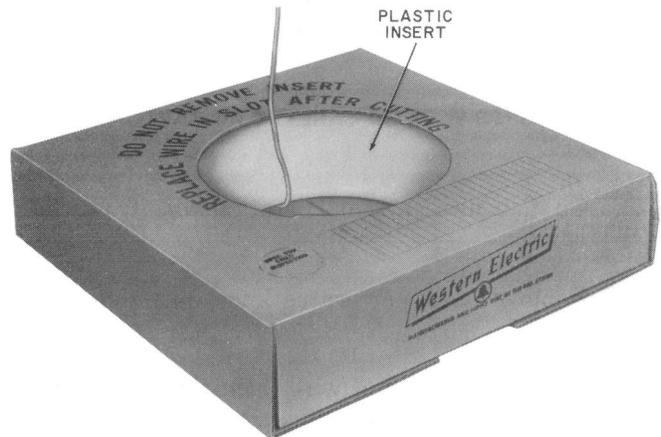

Fig. 1—Dispensing D, G, or H Station Wire
- (1) Remove large perforated knockout from carton.
- (2) Remove free end of wire from slot in bottom. Do not remove plastic insert.
- (3) Place carton on floor and feed wire from carton (Fig. 1).
- (4) Replace wire in slot (in bottom of carton) after cutting.